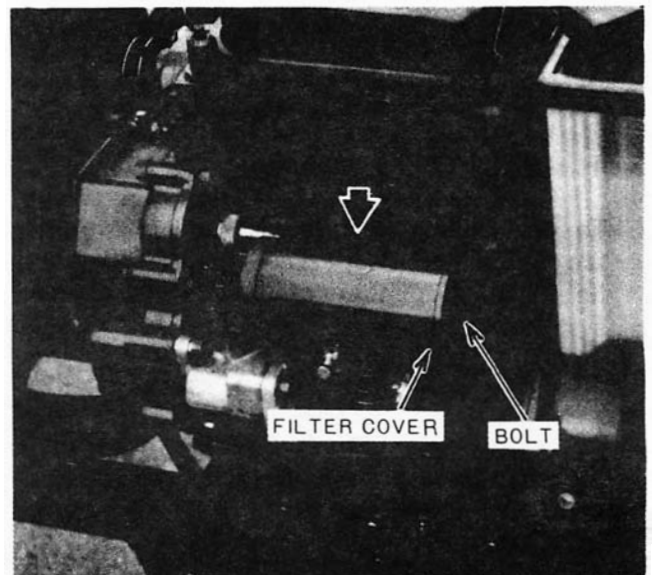

Figure 32 — Hydraulic Oil Filter
1. Remove the attaching bolt from the cover and filter, Figure 32.